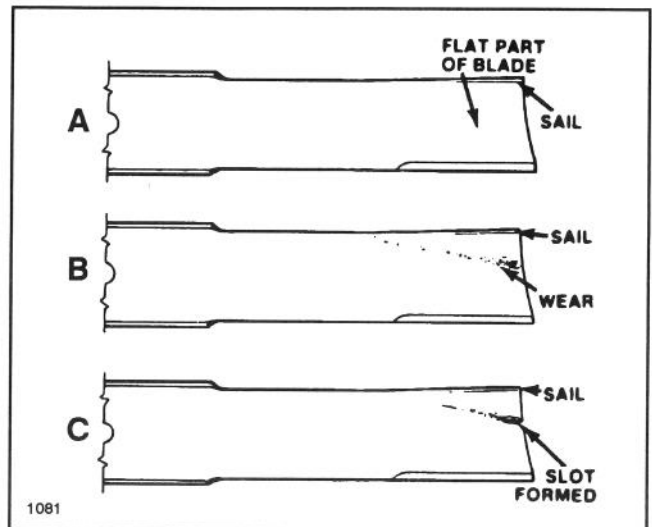

Figure 14
1. Examine cutting ends of the blade carefully, especially where the flat and curved parts of the blade meet (Fig. 14-A). Sand and abrasive material can wear away the metal that connects the flat and curved parts of the blade. Check the blade(s) before using the mower. If wear is noticed (Fig. 14-B), replace the blade(s).